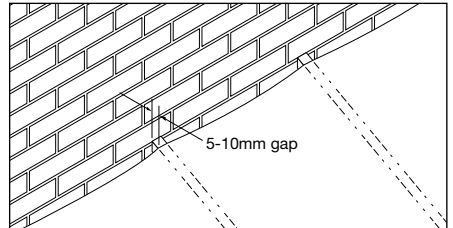

Fig. 1 - Felt and batten normally
- 1 Felt and batten roof in normal way but do not return felt up abutment wall (Fig. 1).